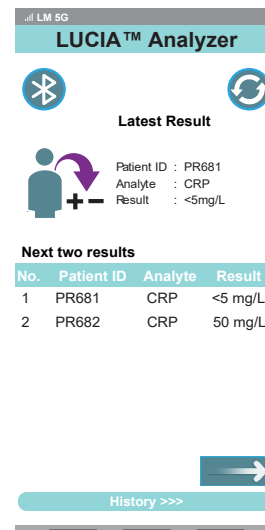

Figure 37. Android Application Main Screen
- Tap the Sync icon to import data from the connected analyzer. See Figure 37.